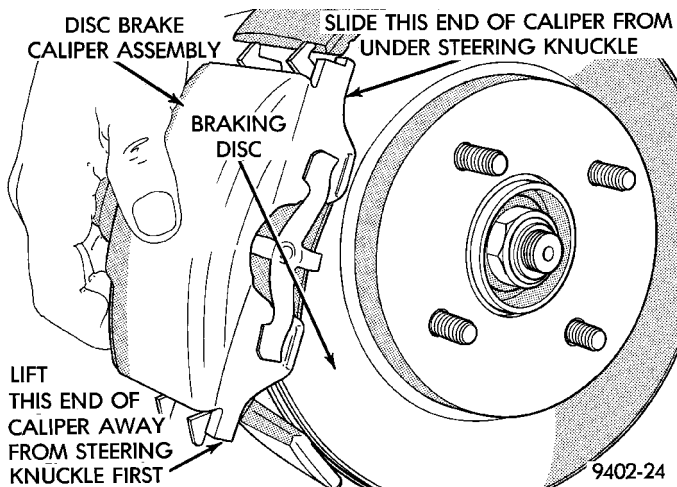

Fig. 6 Brake Caliper Assembly Removal
(6) Remove disc brake caliper assembly from steering knuckle. Caliper is removed by first lifting bottom of caliper away from steering knuckle, and then removing top of caliper out from under steering knuckle (Fig. 6).